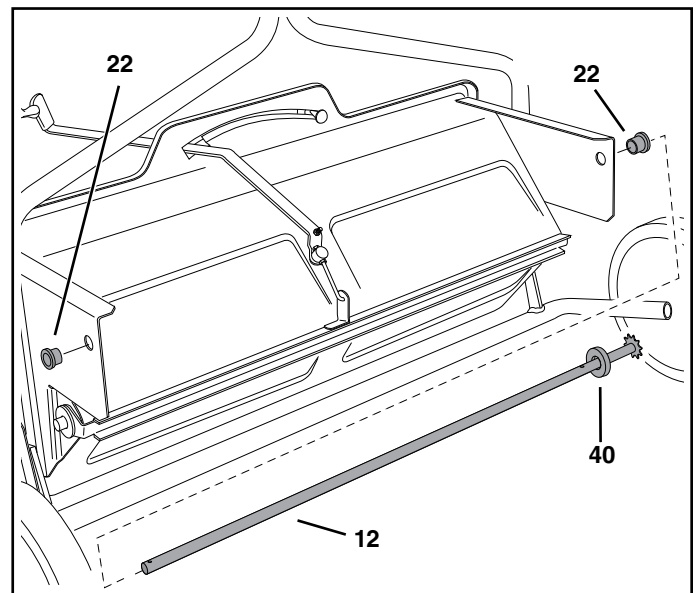

FIGURE 14
- Press flanged bearings (22) into both of the end plates. See figure 14.
- Place the 1/4" thick spacer (40) onto the spike disk shaft (12) and then insert the shaft through the flanged bearing (22) in the left hand end plate. See figure 14.